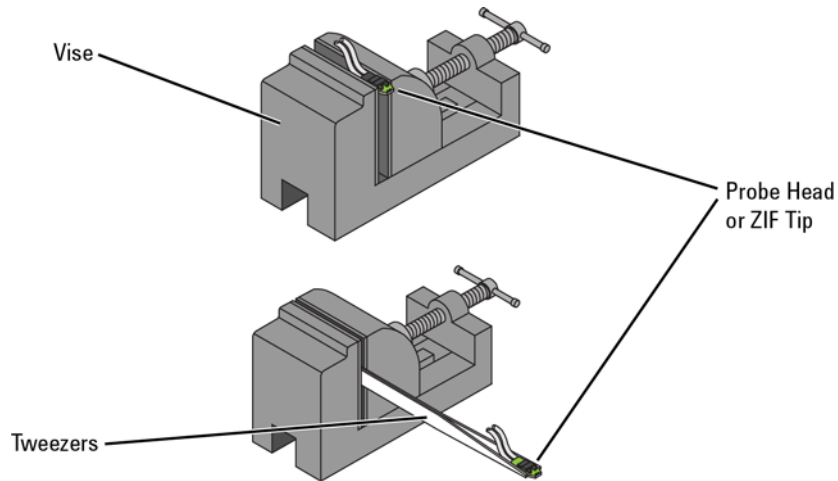

Figure 59 Clamping the Part
- 1 As shown in **Figure 59**, clamp the probe head or ZIF tip in a vise. Tweezers can be used to hold the probe head or ZIF tip away from the vise. When using tweezers, grip the tip either on the sides or top and bottom.